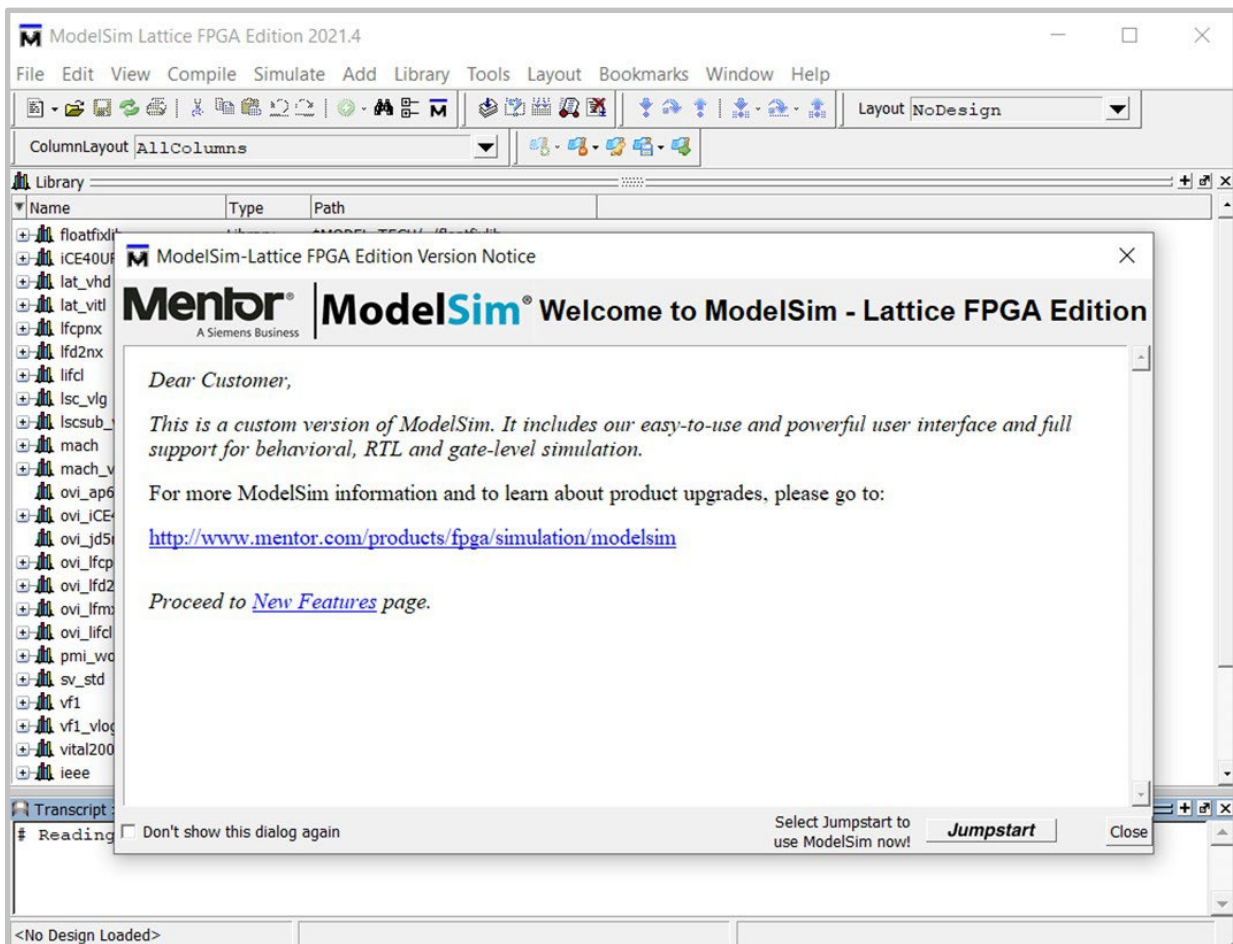

Figure 2: ModelSim-Lattice Project Creation
3. Click **Jumpstart** to create a project, see **Figure 2**.